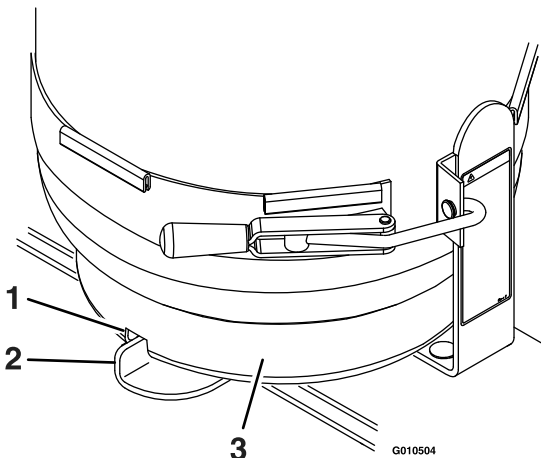

Figure 14
9. Mount the tank by aligning the slot with the mounting tab as shown in Figure 14